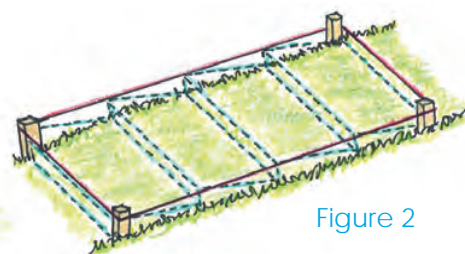

Figure 2
**STEP 1. Stake perimeter.** Stake out the perimeter of the stairway by driving a stake into the ground at each corner of the stairway and stretching string between them (Figure 2).
**STEP 2. Mark areas to be excavated.** Determine the areas that need to be excavated for each step. Using a measuring tape and starting from the string at the bottom of the slope, measure and mark the depth of the each step until you reach the string at the top of the slope. Use spray paint, sand, or flour to mark the depth of each step (Figure 2).